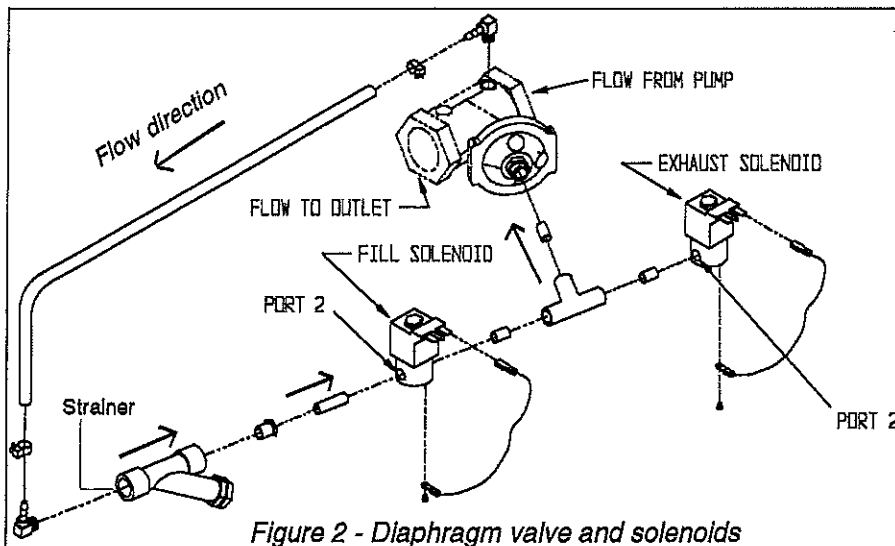

Figure 2 - Diaphragm valve and solenoids
1. The Fill Solenoid is used to close the valve. (See Figure 2). When the control panel switch is in the "OFF"
2. The Exhaust Solenoid is used to open the valve. (See Figure 2). When the control
6. *Strainer*: The water controlled valves have a strainer located on the side of the valve. The strainer has an end plug that will remove the strainer for cleaning or to drain the valve if there is danger of freezing. (See Figure 2)